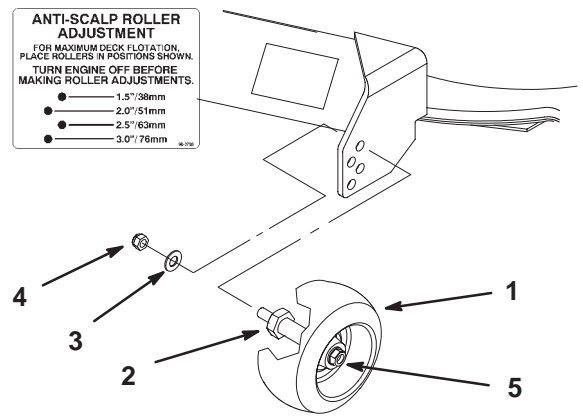

Figure 21
2. After adjusting the height-of-cut, remove the flange nut and spring disk while holding the stud with a wrench (Fig. 21).
Note: Do not remove the wheel nut and washer (Fig. 21).
3. Select a hole so that the gage wheel is positioned to the nearest corresponding height-of-cut desired (Fig. 21).
4. Reinstall the flange nut and spring disk (Fig. 21).